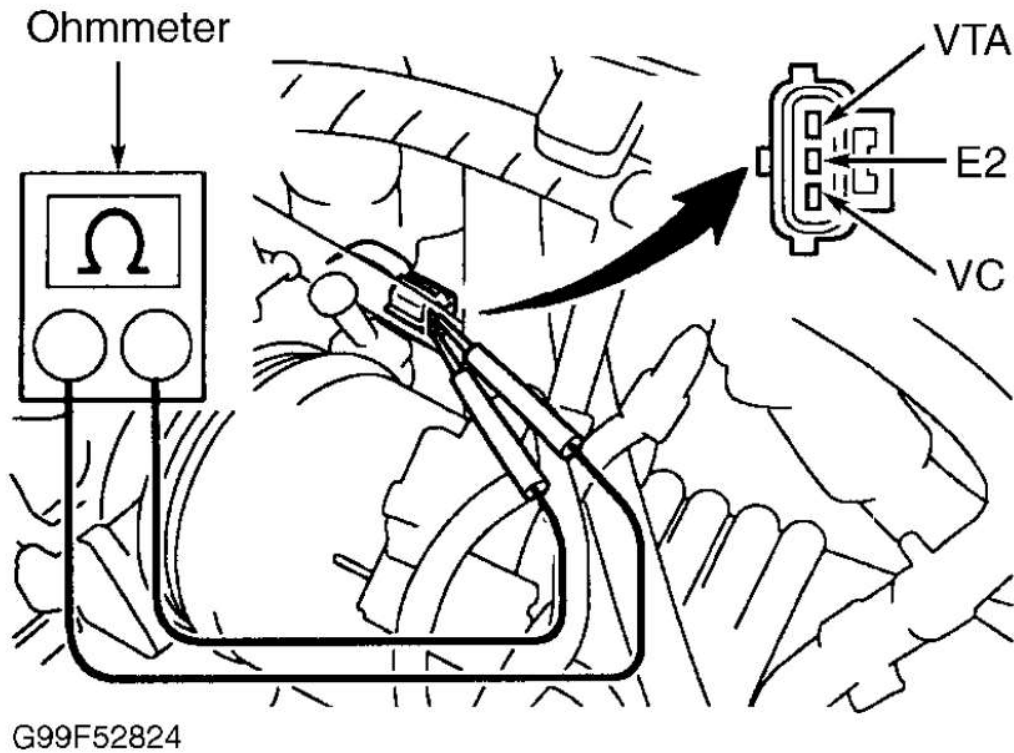

Fig. 52: Identifying Throttle Position Sensor Terminals (Celica)
1. Manufacturer does not list procedure for Throttle Position (TP) sensor adjustment. Only information available is for checking resistance of TP sensor.
2. Disconnect electrical connector from TP sensor. Note electrical terminals on TP sensor. See **Fig. 52 -Fig. 55** .